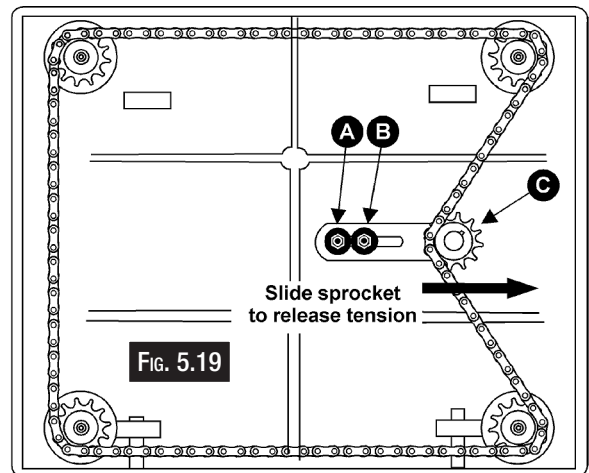

FIG. 5.19
2. Remove bolts holding the planer to the stand. Carefully tilt planer on its side to expose underside of base (Fig. 5.19).
3. Remove bolt (A) (Fig. 5.19) and loosen bolt (B) (Fig. 5.19) which will allow you to move the idler sprocket assembly (C) (Fig. 5.19) far enough to release tension on the chain.
6. When adjustments are correct, replace chain around corner sprocket, slide idler sprocket (C) (Fig. 5.19) back to re-tension chain, tighten bolt (B) (Fig. 5.19) and insert and tighten bolt (A) (Fig. 5.19).